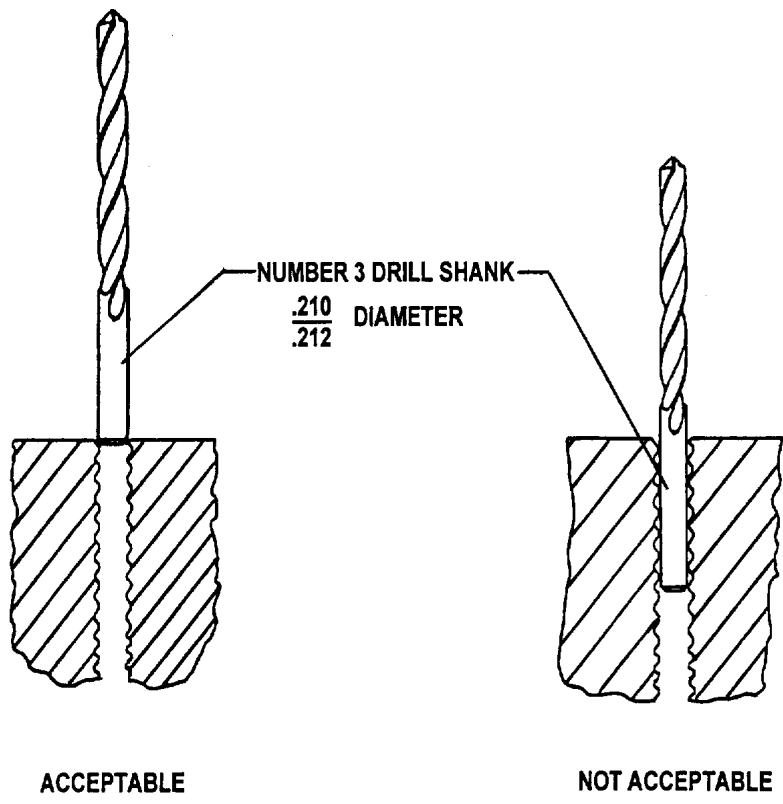

FIGURE 2 INSPECTING .250 - 20 TAPPED HOLES
4. Check these tapped holes in the crankcase to determine if they are oversize by using a #3 (.2130) drill bit. See Figure 2. This will be accomplished by first measuring the shank of the drill bit with a calibrated micrometer. The diameter of the shank must measure .210" - .212". Insert the shank end of the drill bit into the tapped .250"-20 hole. The shank should not extend into the tapped portion of the hole. If it does not, reinstall the two studs to the recorded height using Loctite Primer "N" and 271 Stud Lock. Allow at least 30 minutes for the Loctite to cure prior to the installation of the idler gear pin attaching hardware. Torque nuts to 90 - 110 inch pounds. Make a log book entry as to compliance with this service bulletin as no further action is required. If the shank of the drill bit extends into the tapped portion of the hole, proceed as follows.